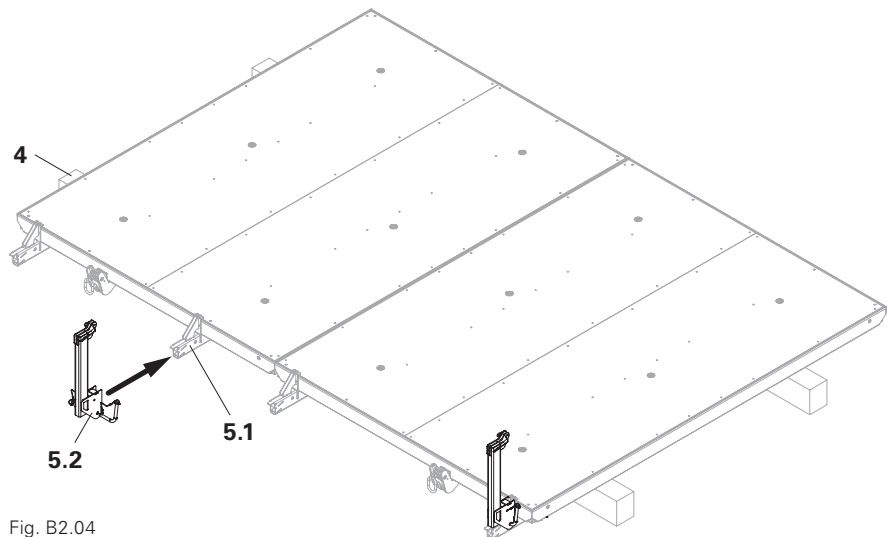

Fig. B2.04
9. Connect mounting part (**5.2**) with base part (**5.1**). (Fig. B2.04)